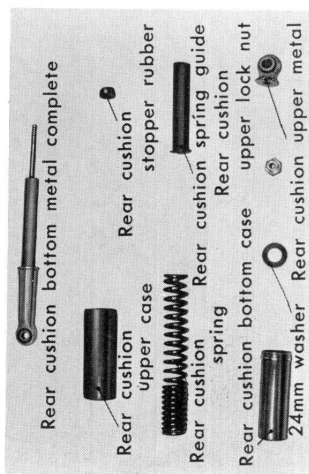

Figure 4-15. Component parts of rear cushion
- Remove the rear cushion assembly by loosening the upper and lower cap nuts. (Fig. 4-15)